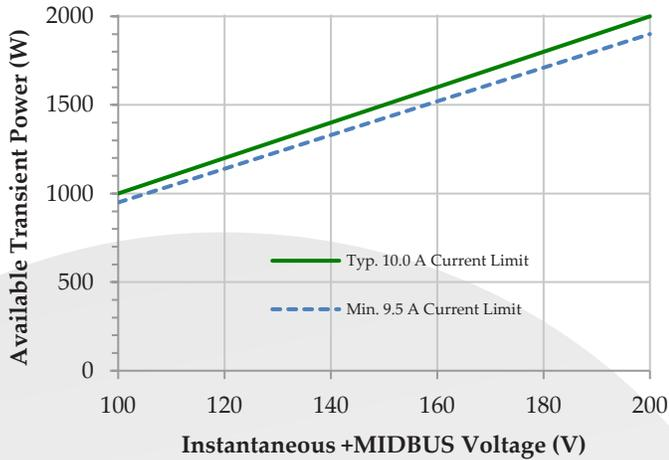

Figure 13: Available transient power vs. instantaneous +MIDBUS voltage. See Figure 11 for steady-state voltage.
- 2) Multiply this minimum +MIDBUS voltage by 9.5 A (the worst-case minimum value for +MIDBUS current limit) to obtain the minimum value during the transient for available power (see Figure 13).
Transients applied at either +VOUT or +MIDBUS will cause a significant dip in voltage at +MIDBUS, which must remain high enough to sustain the applied load power, as shown in Figure 13. Higher values of external capacitance at +MIDBUS will reduce the deviation seen during a load transient, as shown in Figure 14.
For instance, with 100  $\mu\text{F}$  of external +MIDBUS capacitance, a transient from 0% to 75% rated power is handled easily: as seen in Figure 13, the required +MIDBUS voltage to sustain
Holdup capacitance may instead be placed at +VOUT if dips in the output voltage are acceptable during a line interruption. During a line brownout, the diodes in the buck PFC stage remain reverse-biased until the +MIDBUS voltage drops below the level shown in Figure 11. Using relatively low capacitance at +MIDBUS allows the +MIDBUS voltage to drop to this level quickly, allowing the converter to contribute some power to +VOUT (see Figure 13). The voltage rating for capacitors at +VOUT should be at least 320 Vdc.
$V_f$  is the minimum capacitor voltage during the transient. (For cap at +MIDBUS, determine from Figure 13; for cap at +VOUT, determine based on downstream requirements.)
When the holdup capacitor is located at +MIDBUS,  $V_i$  will be a function of line voltage (see Figure 11) and load current (+MIDBUS will typically droop to 200 V at full load).  $V_f$  will be a function of load power during line interruption because of the +MIDBUS current limit (see Figure 13 and further discussion in the section entitled “+MIDBUS Current Limit”).
- 4) Current limit tolerance (9.5 A minimum, which raises the required  $V_f$  to sustain load power as shown in Figure 13)
Figure 17 shows an example of a 50 ms line interruption. Note that for the conditions in Figure 17, the ideal equation would predict  $C_{holdup} > 6$  mF. Yet the actual capacitor used was 7.5 mF, chosen to keep the minimum voltage well above the available transient power shown in Figure 13 and to account for the combined effects of items 1, 2, 5, and 6 discussed above.